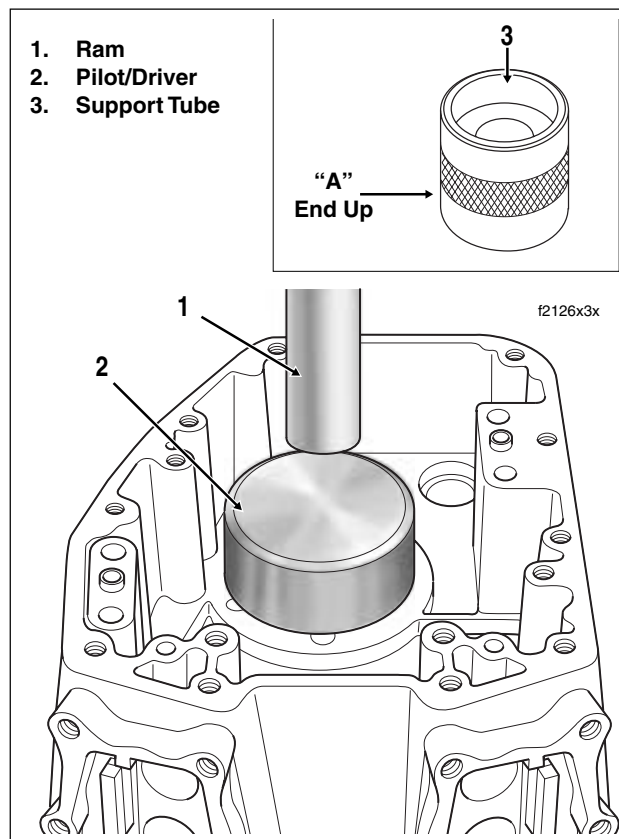

Figure 3-126. Remove Crankshaft Bearing
5. Center pilot/driver under ram of press. Apply pressure to pilot/driver until bearing is free. See Figure 3-126.